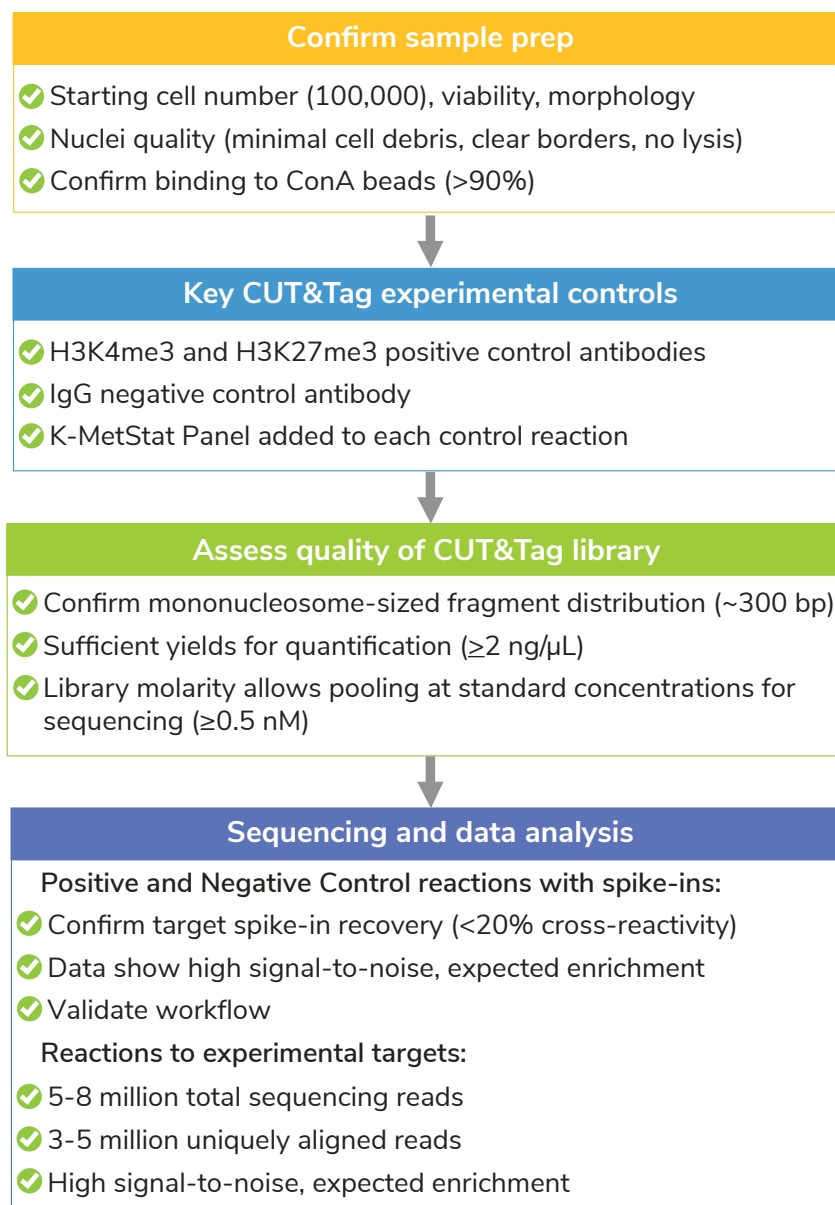

FIGURE 6
- This kit includes multiple quality control checks (Figure 6) to ensure reliable CUT&Tag workflows.